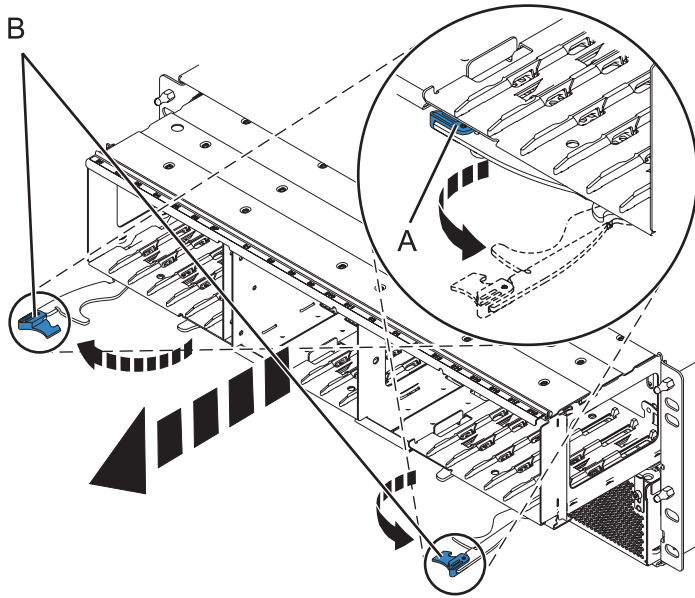

Figure 96. Removing the backplane from the enclosure
6. Remove the backplane as shown in Figure 96 on page 129.